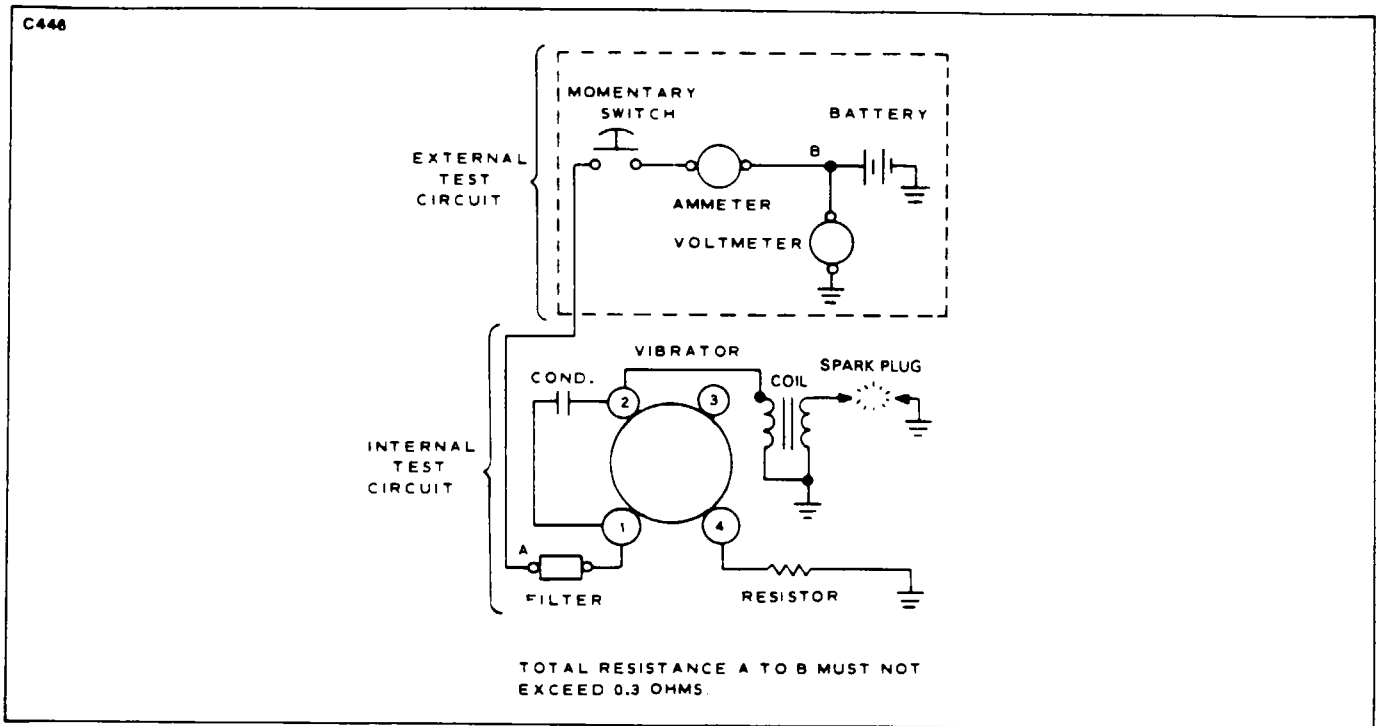

Figure 21-6. Wiring - Test Setup
6. Arrange the test equipment as shown in Figure 21-6.